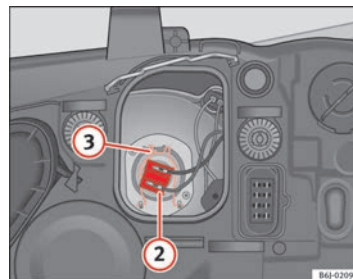

Fig. 147 Dipped beam headlights
- Remove the connector ⇒ fig. 147 ② from the bulb.
- Unclip the retainer spring ⇒ fig. 147 ③ pressing inwards to the right.